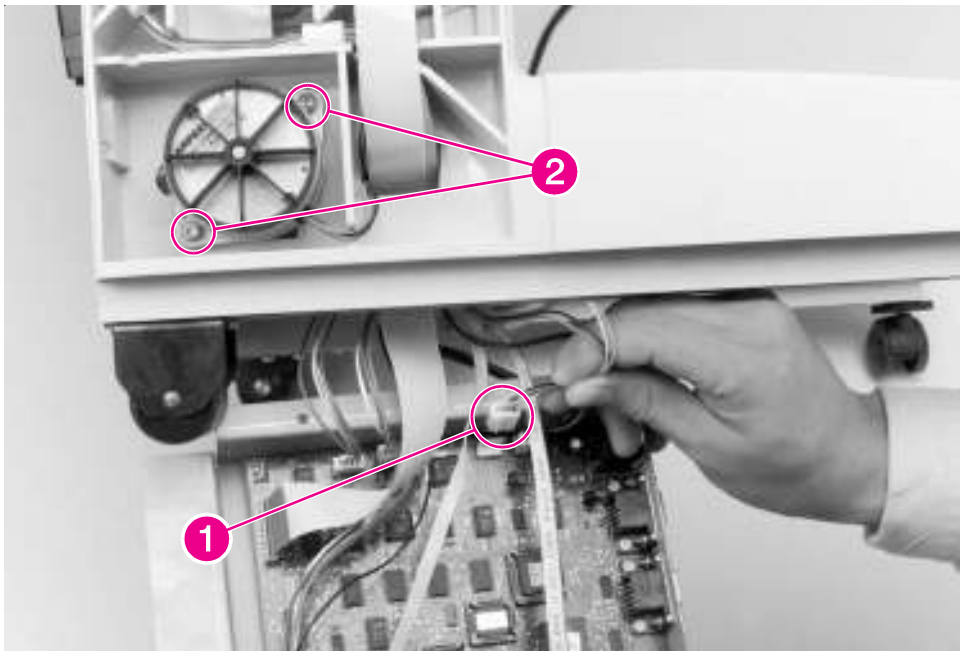

Figure 6-158 8-bin Mailbox Transport Belt Motor
- 4 Locate the cable that runs from the Transport Belt Motor to the 8-bin Mailbox Controller PCA, and disconnect the cable from the J8 connector on the Controller PCA (Figure 6-158, callout 1).
- 5 Remove the 2 screws (and washers) that secure the Transport Belt Motor to the 8-bin Mailbox frame (Figure 6-158, callout 2).